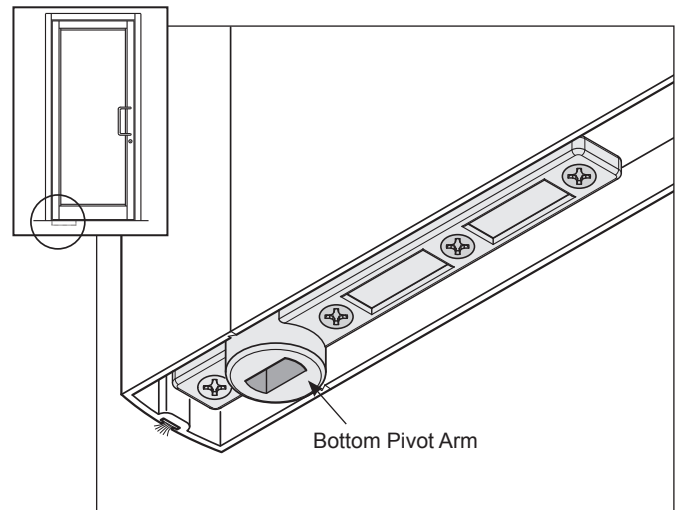
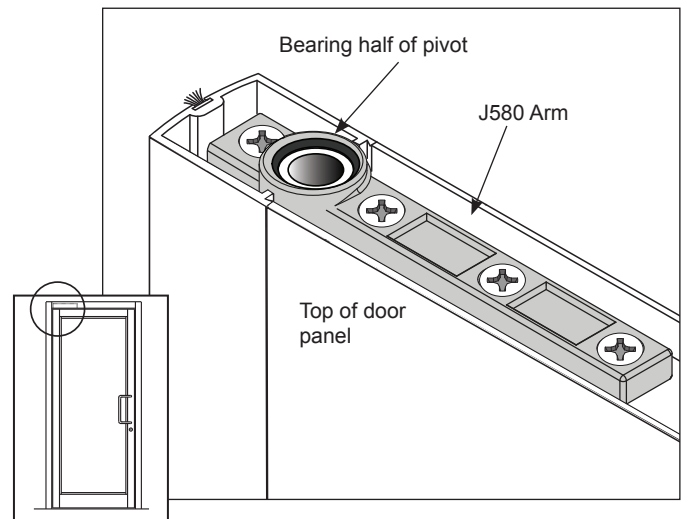
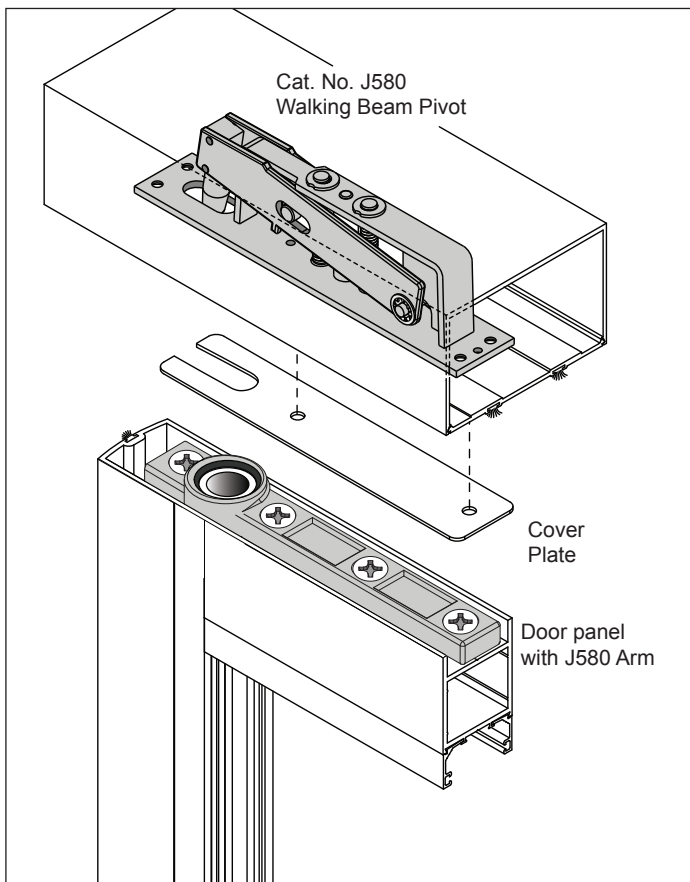

FIG. 6
FIG. 7
FIG. 8
3. Install the Pivot Hardware into the door panel and door frame. On the pivot center line, mortise the bottom Pivot Arm into the bottom Door Rail and Hinge Stile. **(Fig. 6)** Do the same with the top door rail, mortise the Bearing Half of the Top Pivot assembly. **(Fig. 7)** Notching may be required on aluminum door Hinge Stiles and Rails to accommodate the pivot hardware. At the door frame Header, mortise the Pivot Half or Walking Beam Pivot of the assembly. **(Fig. 8)**